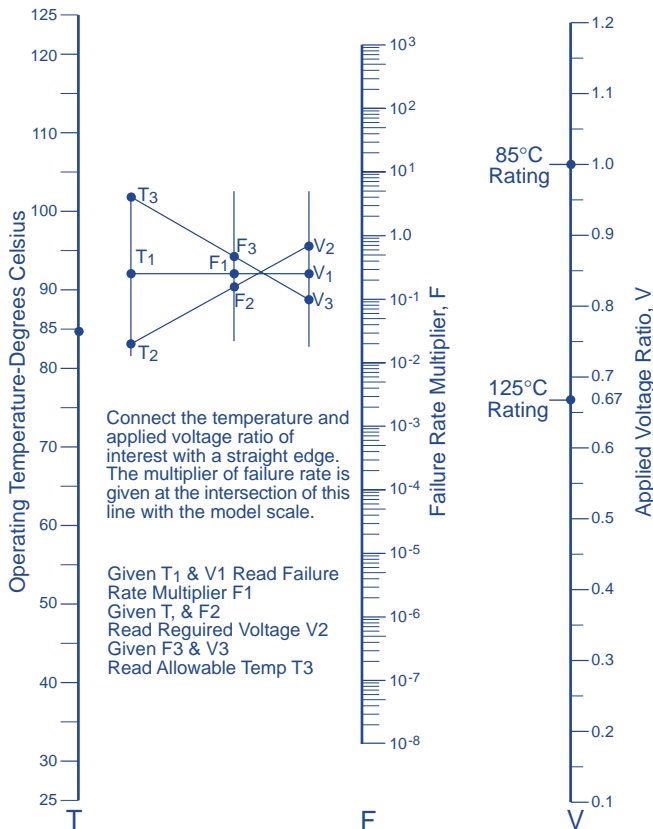

Fig 6 Reliability alignment chart
Expected reliability factors for voltages and temperatures other than the rated conditions may be found in Figure 6. Since **T210 Series** capacitors are supplied with a predetermined failure rate under rated conditions, reliability under use conditions may be estimated with this nomograph.
**Circuit Impedance** — Failure rates are affected by temperature and voltage as described in Figure 6 and also by the circuit impedance seen by the capacitor. Originally, application advice for solid tantalum capacitors suggested an impedance of 3 ohms or higher per applied volt. This advice was later found to be unnecessarily conservative, and the factors below are based on 0.1 ohm per volt as the unity failure rate multiplier.